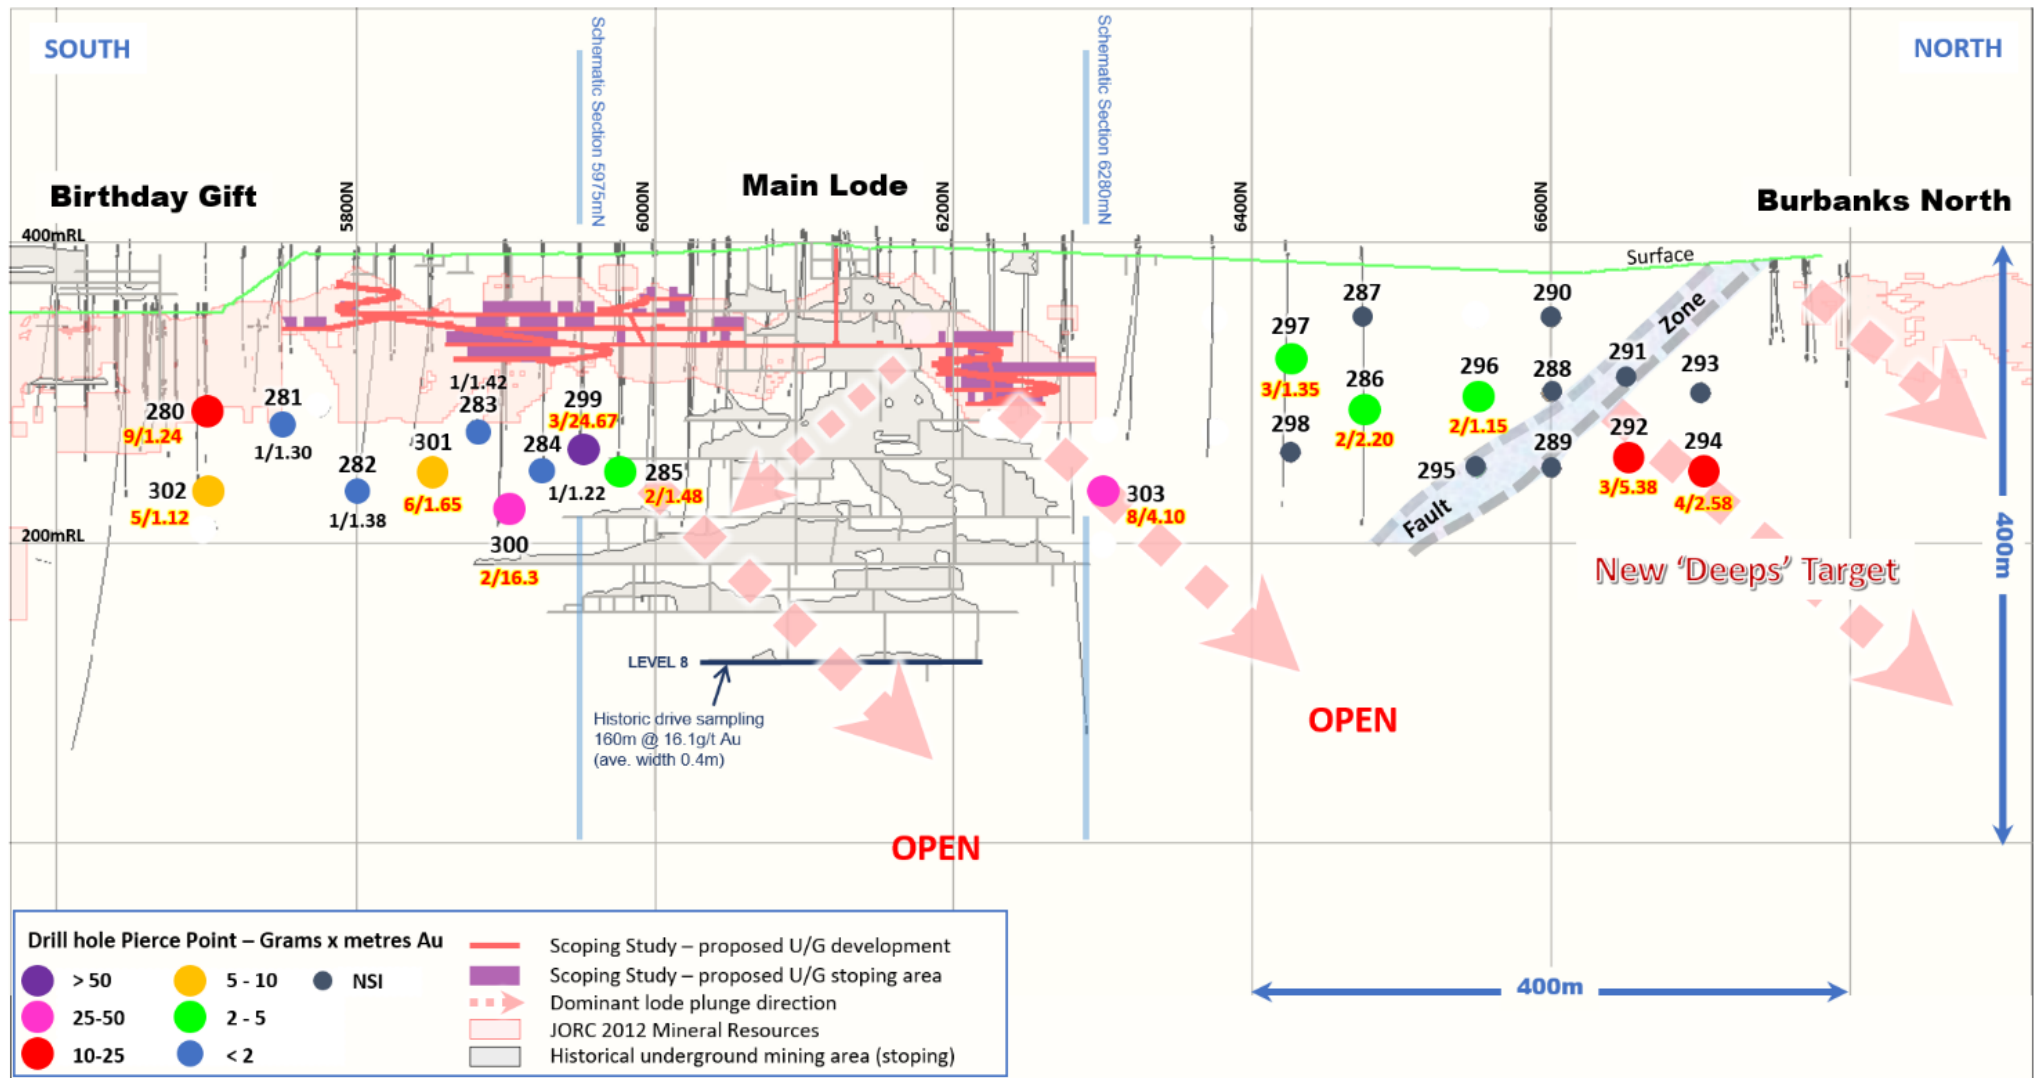

Figure 2 – Schematic long section of Main Lode showing drill hole pierce points
The key objectives of this program were two-fold: Firstly, to extend the existing Mineral Resource between the historic Main Lode and Birthday Gift Gold Mines from its current depth of 100m below surface to 200m below surface (Figure 2).
- Ten (10) holes were drilled below the existing Mineral Resource between Main Lode and Birthday Gift. 6 holes intersected widths between 2 and 9m (down-hole) grading between 1.0 and 24.7g/t Au (Figure 2). Pleasingly, intersections in BBRC299 (2m @ 16.3g/t Au) and BBRC300 (3m @ 24.67g/t Au) confirmed high-grade mineralisation exists away from the historical workings and down-plunge from an area identified for stoping in the recently completed Scoping Study (refer ASX:BAR Release dated 23/09/2019).
- One (1) hole, BBRC303 intersected 8m @ 4.01g/t Au (incl. 4m @ 7.23g/t Au) from 159m down-hole, and 5m @ 1.61g/t Au (incl. 2m @ 3.14g/t Au) from 176m approximately 100m down-plunge of previously identified high-grade mineralisation (refer to drill programs completed in 2017 and 2019) and another area identified for stoping in the recently completed scoping study. Unfortunately, BBRC303 ended in mineralisation as the hole was abandoned due to difficult ground conditions. Mineralisation remains open and presents a clear target area for follow-up drilling.
- Thirteen (13) holes were drilled between Main Lode and Burbanks North on an approximate 50m x 50m spacing. The following was noted: